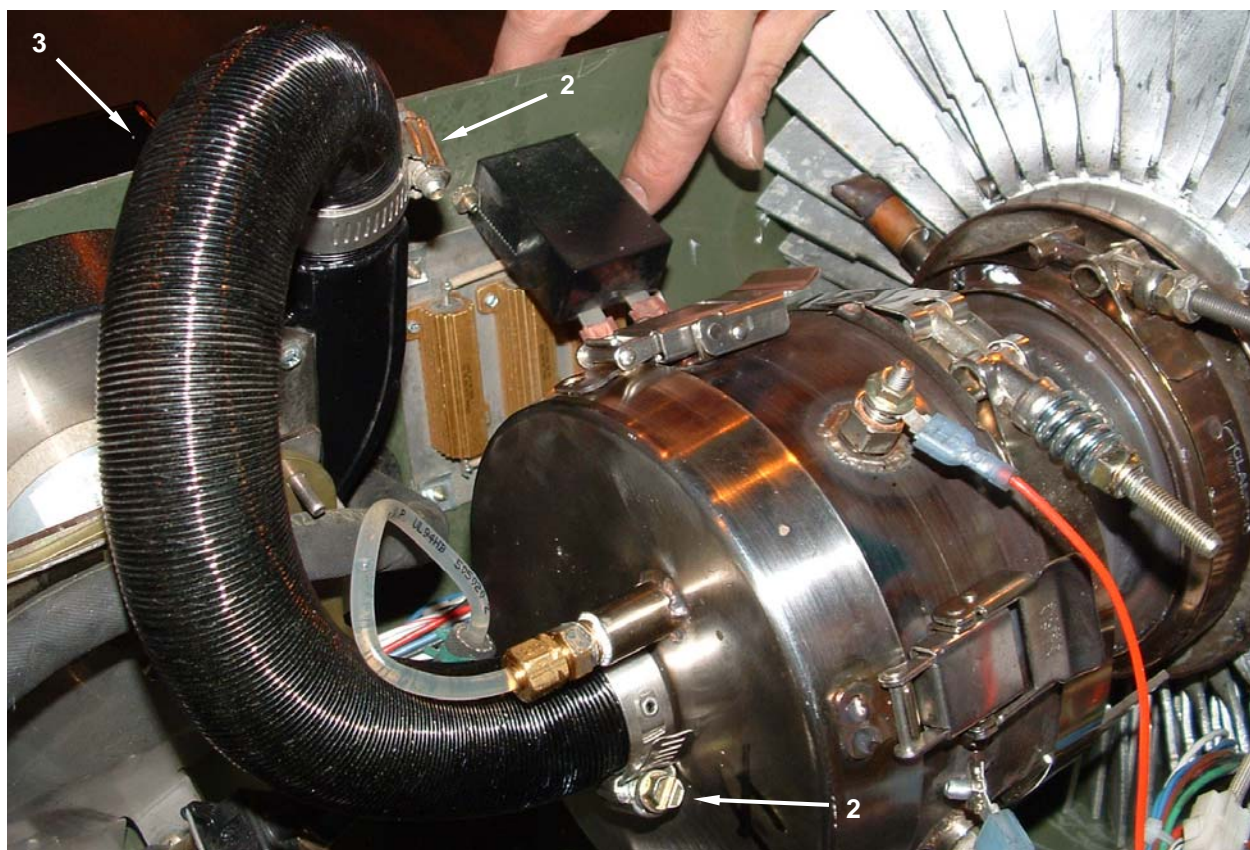

Figure 5. Replace the Fuel Pump Assembly - Continued.
21. Install combustion air blower fan hose (**Figure 5, Item 3**) and tighten hose clamps (**Figure 5, Item 2**).